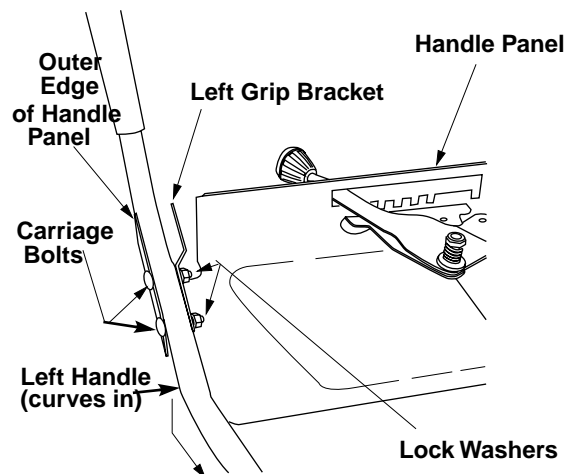

Figure 4
1. Attach left handle and grip bracket to handle panel with two carriage bolts, lock washers and hex nuts. (Be sure the bend in the grip bracket is towards the center of the handle panel. (See Figure 4.) Do not tighten at this time.